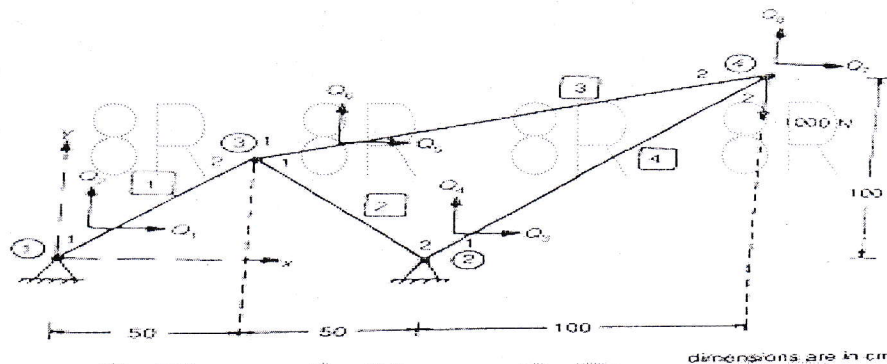

Figure 1
- b) Find the stresses developed in the various elements of truss shown in figure 1. All dimensions in cm. [5+5]